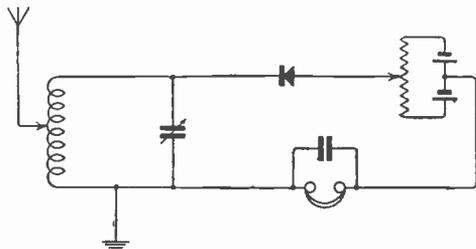

Fig. 3.
**"H.G."** (Sparkhill) asks (1) What results, if any, he will get with certain gear. (2) For a diagram of connections. (3) For a suitable aerial.
(1) You should get fair results from any near station and should also get FL and Poldhu.
(2) See diagram Fig. 3.
(3) Aerial should be as high and long as possible. Results will be poor unless it is practically the P.M.G. maximum.